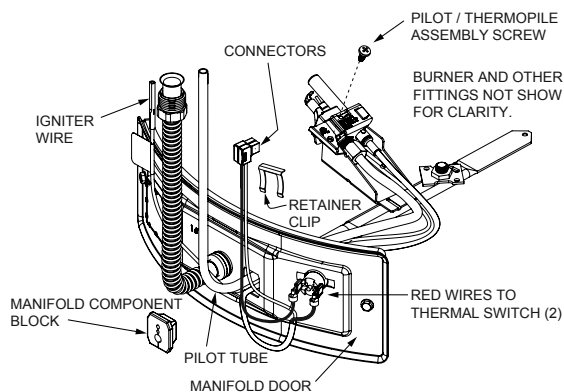

FIGURE 35.
4. Lift the retainer clip straight up from the back of the manifold component block (using a flat-blade screwdriver), then remove the manifold component block from the manifold door (Figure 35). **IMPORTANT:** Be careful not to bend or alter the position of the pilot tube, it will be used